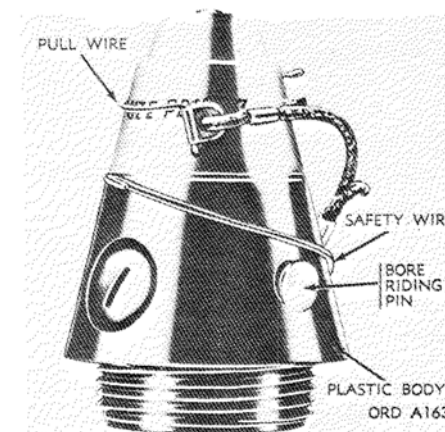

Figure 5-28. Point detonating fuze M527.
a. **General.** These fuzes (figs. 5-28 and 5-29) replace M82 series fuzes. They are similar to M525-series fuzes (para 5-28) except that M527-series fuzes have a smaller booster charge and an intrusion. They are for use with burster M19 in 60-mm WP smoke cartridge M302. The M527 and the M527A1 have a plastic body and the M527B1 and the M527A1B1 have an aluminum body. The same preparation for firing and precautions as in